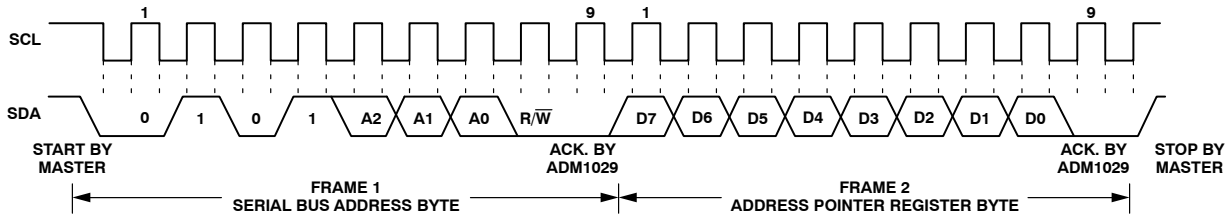
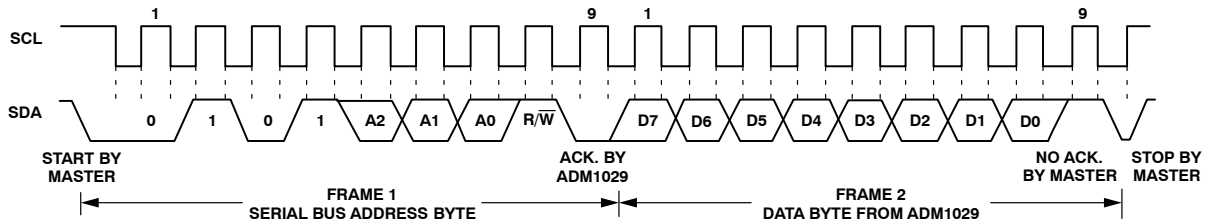

Figure 19. Writing to the Address Pointer Register Only
Figure 20. Reading Data from a Previously Selected Register
1. If the ADM1029's Address Pointer Register value is unknown or not the desired value, it is first necessary to set it to the correct value before data can be read from the desired data register. This is done by performing a write to the ADM1029 as before, but only the data byte containing the register address is sent, as data is not to be written to the register. This is shown in Figure 19. A read operation is then performed consisting of the serial bus address, R/W bit set to 1, followed by the data byte read from the data register. This is shown in Figure 20.
2. If the Address Pointer Register is known to be already at the desired address, data can be read from the corresponding data register without first writing to the Address Pointer Register, so Figure 19 can be omitted.